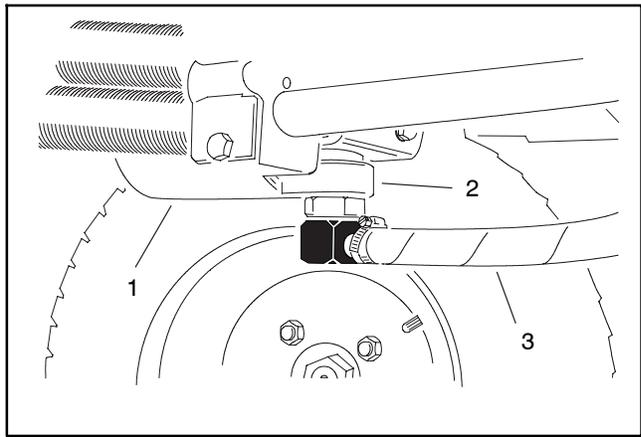

Figure 9
5. Place a suitable container under the hydraulic filter to collect the hydraulic fluid. The container should have a 6 gal. (23 Ltr.) minimum capacity. Disconnect the hydraulic hose below the filter head or remove the hydraulic filter element and drain the hydraulic system (Fig. 9).